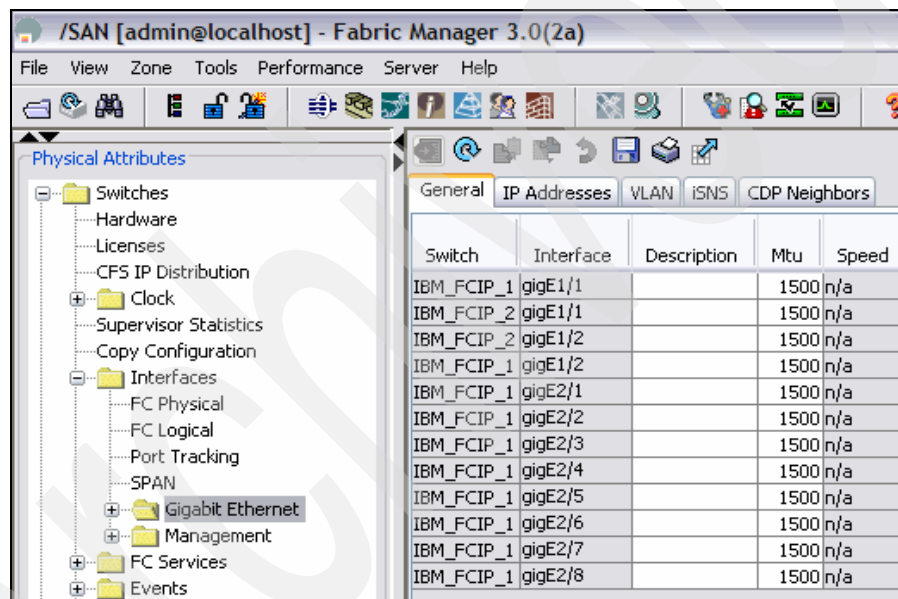

Figure 12-4 FM path to view and modify Gigabit Ethernet interfaces
1. The first step in configuring FCIP is to enable the GigE interfaces we want to use and setting the MTU. The path to do this in FM is in the Physical Attributes pane. Select **Switches** → **Interfaces** → **Gigabit Ethernet**, as shown in Figure 12-4.